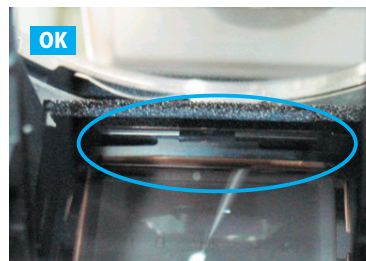

Fig. 023
(4) Assembly of Focusing Screen Retainer
- Check the clasp part of the focusing screen retainer reflected on the main mirror to make sure that the retainer is attached firmly without being lifted, as shown in Fig. 023.